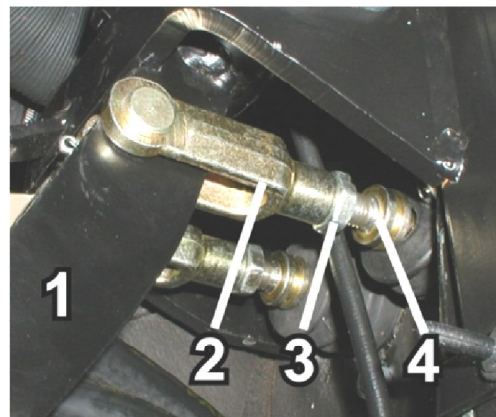

Fig. 5.12. Service brake adjustment.
If the free travel is out of the limits, as given above, or the braking performance of wheels is uneven, adjust the brakes by screwing the brake pump push rod fork in or out (Fig. 5.12)
- unlock the locknut (3-Fig. 5.12),
- adjust by turning push rod (4-Fig. 5.12) in brake pump fork (2-Fig. 5.12) so that there is a free travel at the pedal of 20 to 25 mm,
- lock the locknut (3-Fig. 5.12),